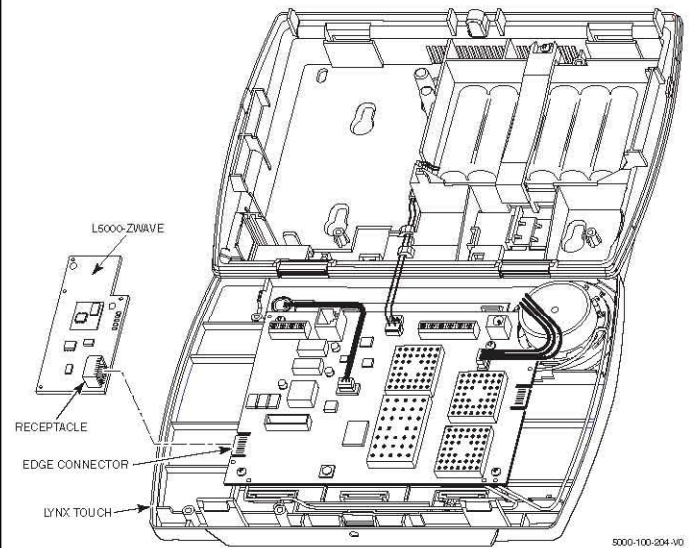

Figure 2. Installing the L5100-ZWAVE Communications Module
2. Release the LYNX Touch front case from the back case by depressing the two locking tabs at the top of the unit with the blade of a medium size screwdriver (Refer to Figure 2).
3. Install the GSMVLP5-4G/GSMVLP5CN-4G into the LYNX Touch control front case. Ensure that the connector board is properly seated into the receptacle on the control (Refer to Figure 2).
4. Secure the GSMVLP5-4G/GSMVLP5CN-4G with the three provided screws (Refer to Figure 2).
2. Release the LYNX Touch front case from the back case by depressing the two locking tabs at the top of the unit with the blade of a medium size screwdriver. Refer to Figure 2.
3. Install the module component side up in the control panel as shown in Figure 2. Ensure that module's receptacle is securely seated on the control's edge connector.